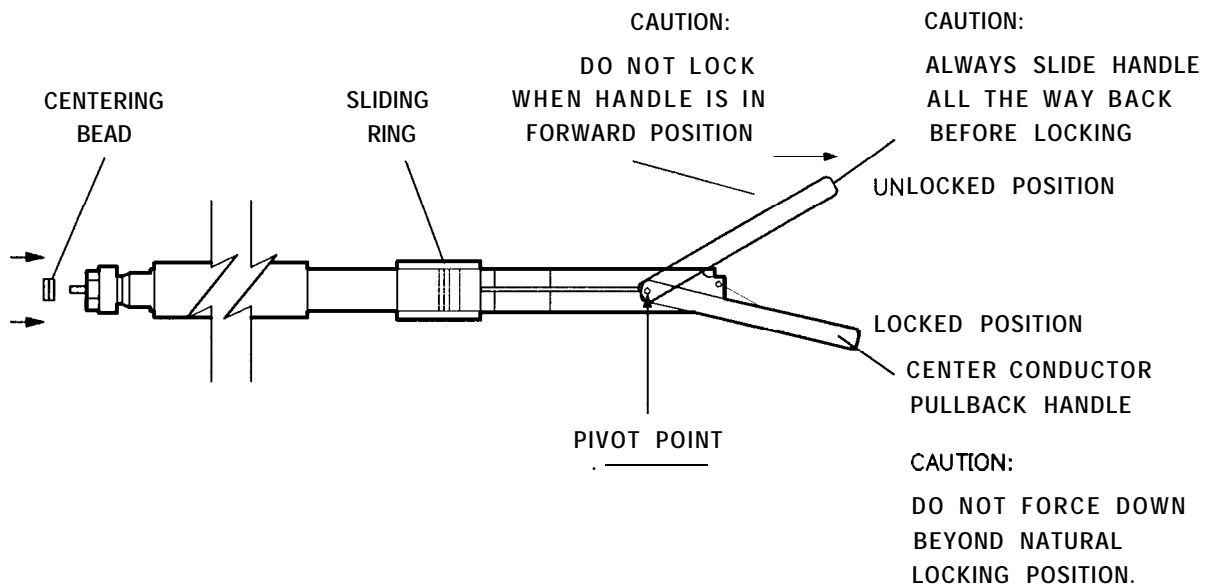

Figure 4-10. Connecting the Sliding Load
1. Release the center conductor pullback mechanism by raising the handle to the unlocked position (see Figure 4-10). Carefully move the handle toward the connector end of the sliding load. The center conductor will extend beyond the end of the conductor.
CAUTION To avoid damage, always move the center conductor pullback handle back as shown in Figure 4-10 before unlocking the handle. Do not press the handle past the locked position.
4. Move the center conductor pullback handle back and then down into its locked position as shown in Figure 4-10.